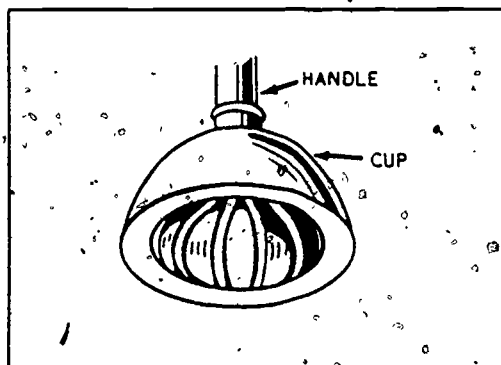

Figure 3-49. Vacuum plunger.
**Vacuum plunger.** Sometimes the term "plumber's friend" is used to describe the vacuum plunger which is shown in figure 3-49. You place the cup over the fixture drain. By pushing and pulling on the handle, you create alternate pressure and suction cycles. Obstructions such as lint, hair, fats, food particles, and other objects are worked loose and flushed down the drain. The vacuum plunger is designed to clear drains of fixtures such as kitchen sinks, lavatories, and bathtubs. These fixtures have flat areas in the bottom around the drain.